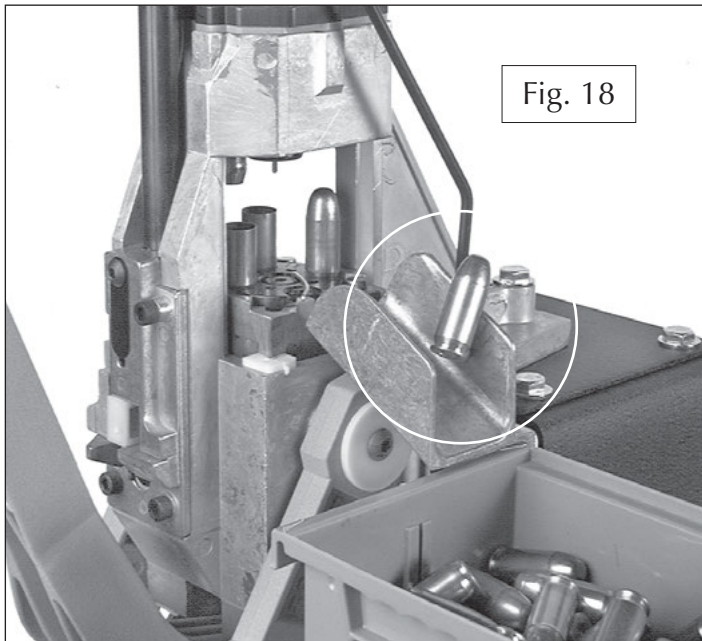

Fig. 18
4.) From this point on, place a bullet on the case at Station 3 with your left hand. Insert a case at Station 1 with your right hand and cycle the handle. Each time you cycle the machine a finished round will be ejected into the cartridge collection bin. (See Fig. 18 next page)